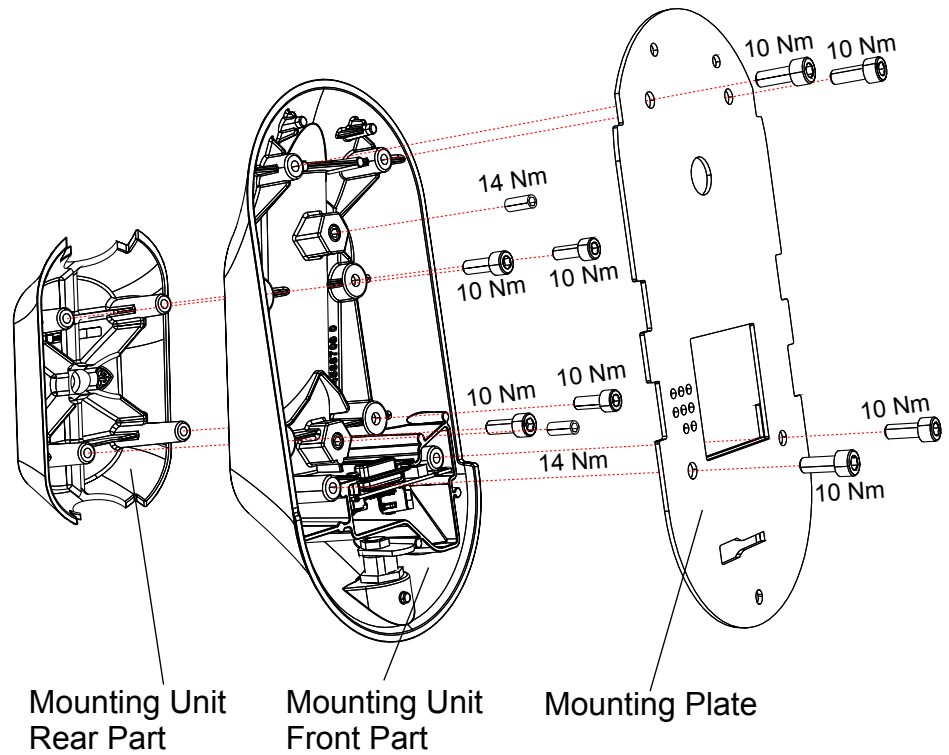

Figure 6-31 Mount the Mounting Unit
STEP 11: Put the rear part of the mounting unit on the front part of the mounting unit around the pole and fix it with four screws. (see **Figure 6-31**).